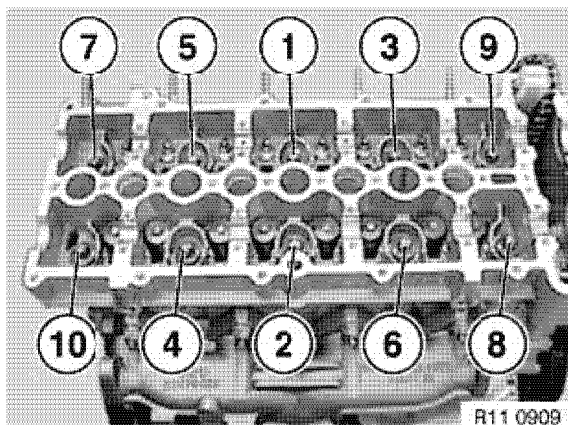
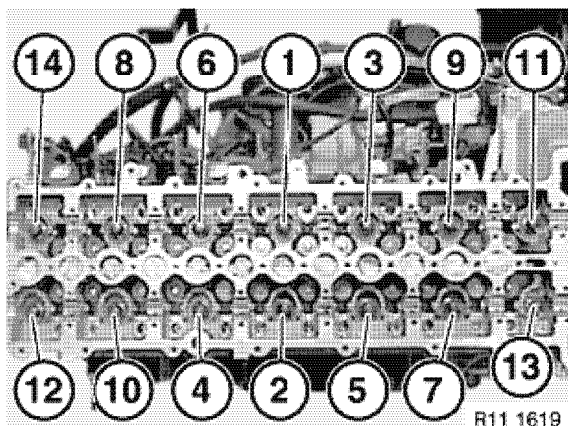
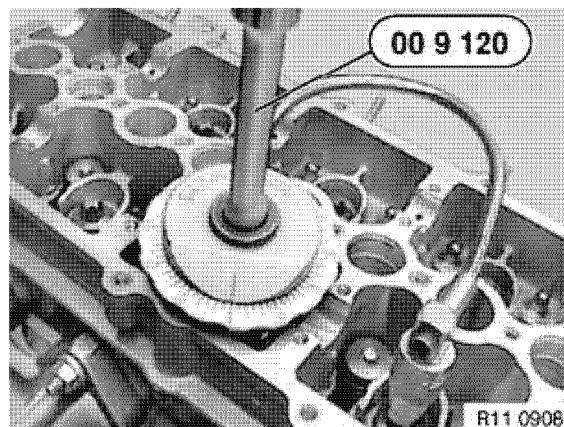

Figure 5-37
Figure 5-38
Figure 5-39
- Lightly oil threads of new bolts and install new bolts. Tighten the bolts in stages, and in the sequence shown (Figure 5-37) and (Figure 5-38). Use a torsion angle tool such as that shown (Figure 5-39).